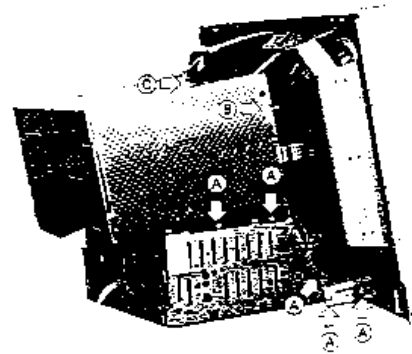

Figure 2-4 Internal Disassembly (Left Side)
4. Remove the five screws. Refer to the figure 2-4 (A).
5. Disconnect the ground wire from the top shield. Refer to the figure 2-4 (B).
6. Release the crammer cord from the top shield. Refer to the figure 2-4 (C).